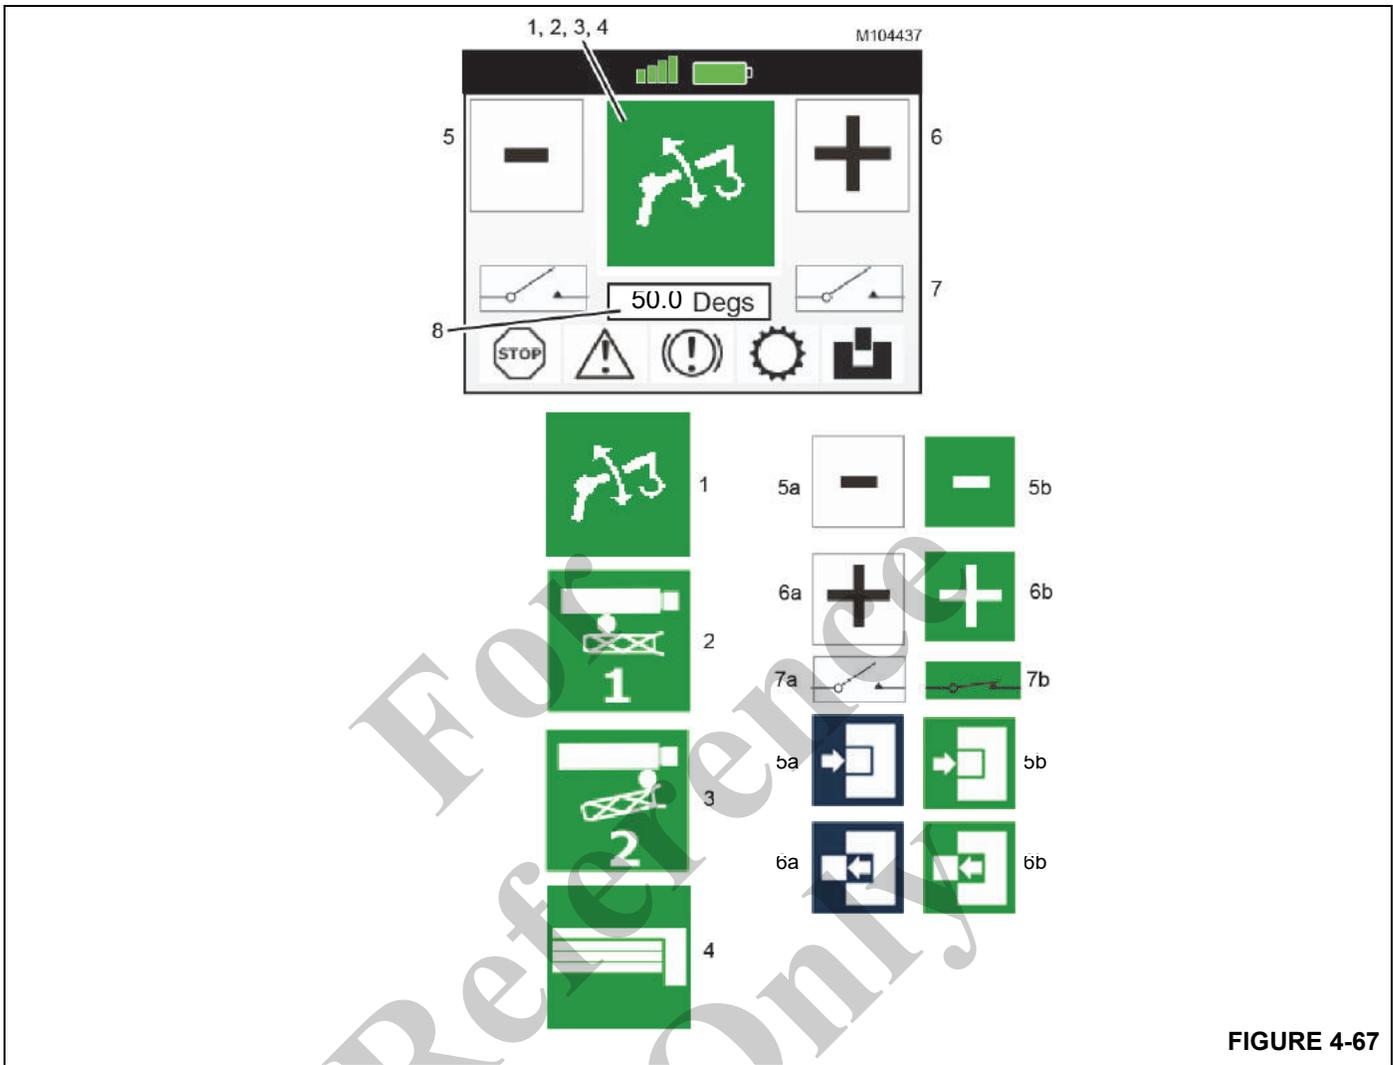

FIGURE 4-67
See Figure 4-67
1. Press the option button  on the remote control unit as many times as needed to access the rear boom extension stowage actuator screen (2) See Figure 4-67.